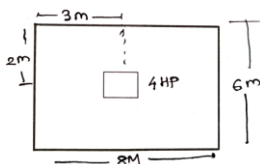

Fig. No. 2
b) Prepare the schedule of material for industrial installation as shown in Fig. No.2